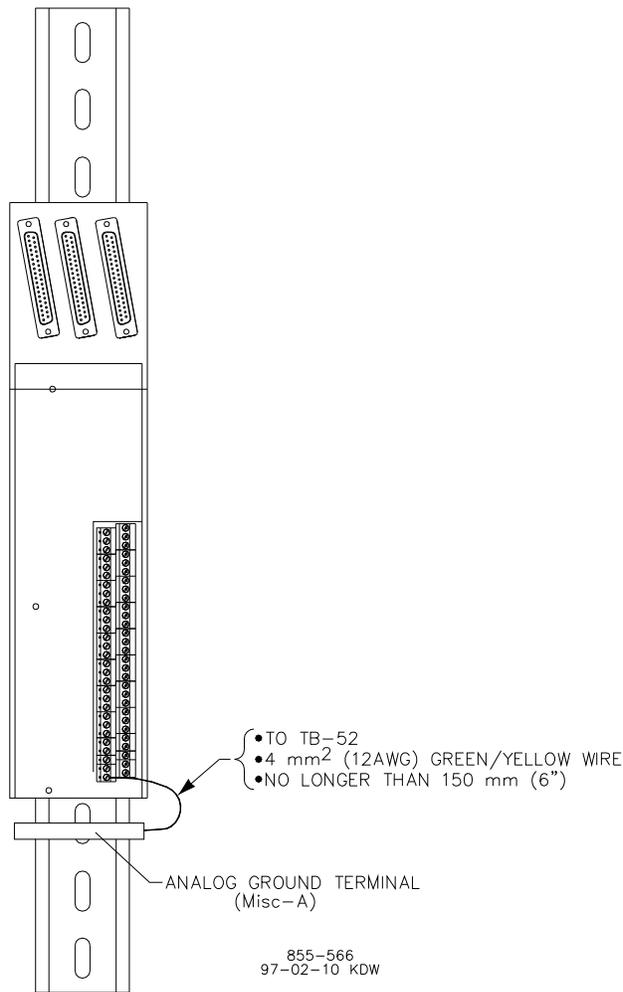

Figure 3-8. ATM Grounding Diagram
6. Snap the included ground terminals (Misc A) onto the DIN rail next to the ATMs. See Figure 3-8.